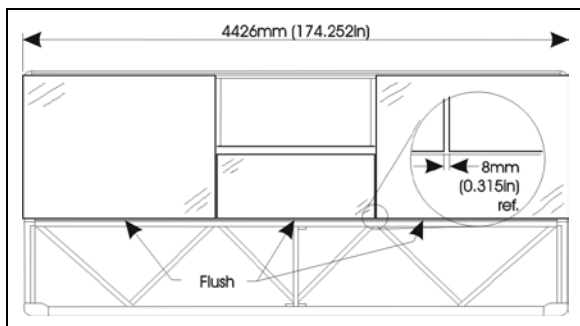
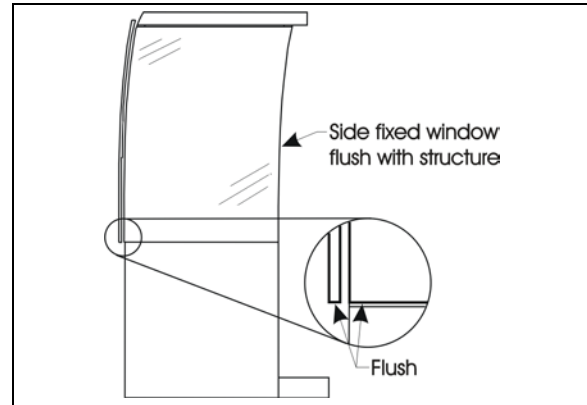

FIGURE 59: FACE FIXED WINDOW INSTALLATION
FIGURE 60: SIDE FIXED WINDOW
7. Install the windows on the slide-out structure (see FIGURE 59 or FIGURE 60).